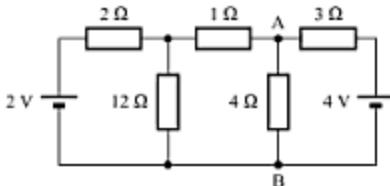

Fig. 4.37
- Determine the current through $4\text{-}\Omega$ resistor (from A to B) in the circuit shown in Fig. 4.37, using superposition theorem.